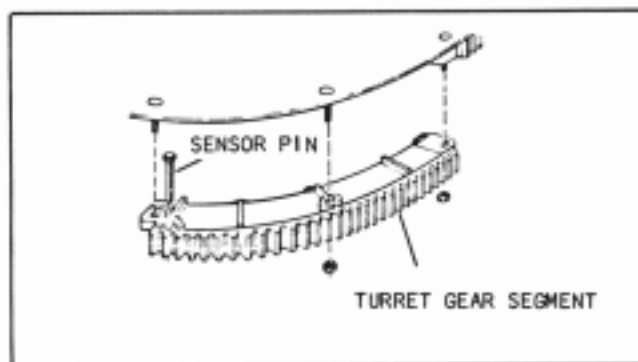

FIGURE 4
6. Rotate turret until sensor pin is clear of turret shelf. (See Figure 4)